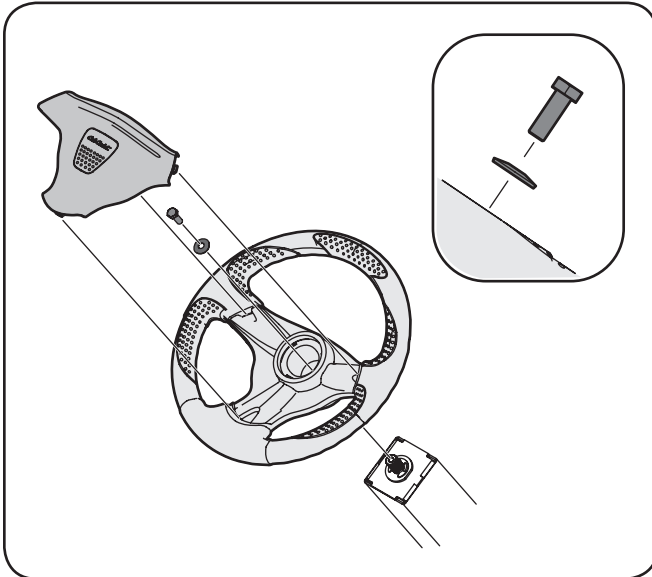

Figure 3-7
3. Place the Belleville washer with the cupped side facing inward over the steering wheel and secure with the hex lock screw. See Figure 3-7.